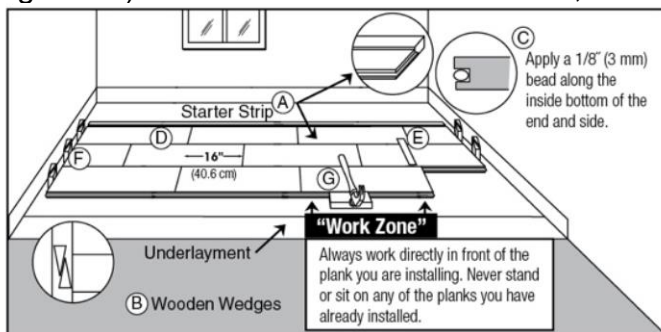

Figure 14
- Select the first board. All installations should begin with the groove side against the wall using the longest boards available. Apply a continuous 1/8" (3 mm) glue bead to the inside bottom of the groove on the end of the board. Do not apply glue to the groove side at this time (Item C, Figure 14). Products with the end tongue on the left should be installed right to left, opposite tongues should be left to right. (Item D, Figure 14). If a sacrificial board was used, remove it. DO NOT glue the first row to it.
- Complete the first row. Cut the last board allowing for 1/2" (13 mm) clearance between the wall and the floor. (Use the remaining end of the cut board as a starter board for any row following row three). Install a wedge on the end of the board between the hardwood flooring and the wall, allowing 1/2" (13 mm) expansion space. Avoid installation of any boards shorter than 16" (40.6 cm) in the first four rows. (Item F, Figure 14).
- Use a pull bar to pull the last board into place from the opposite end. Install wedges into the gap and tighten (Item B, Figure 14).
- Cut or use a shorter board for the first board of the second row. Start the second row by applying a 1/8" (3 mm) bead along the inside bottom of the end and side groove of the new board. Install the first board of row two. Apply a bead of glue to the inside bottom of the end and side groove of the next board and install. When installing boards together, use a tapping block against the tongue, not the groove (Item G, Figure 14). Tap the boards into place by tapping with a hammer on the tapping block. DO NOT tap on the edge directly with the hammer. Complete the second through fourth rows using this technique. Insert wedges on the ends, as necessary, to restrain the movement of the floor.